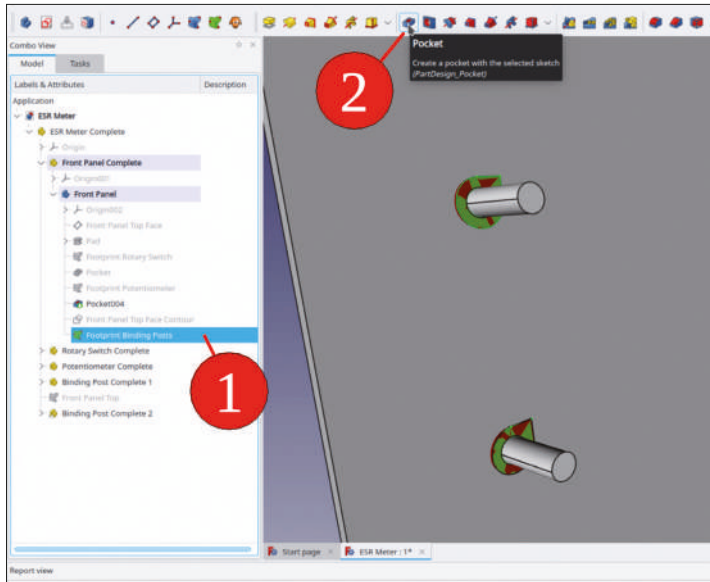
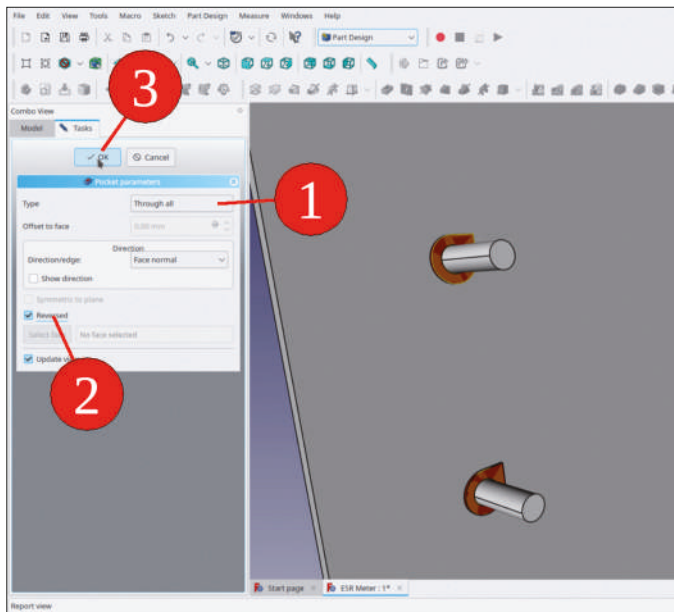

Figure 7-37
Figure 7-38
23. Double-click the body 'Front Panel' to activate it (title shown in bold letters). In the tree view, mark the SubShapeBinder 'Footprint Binding Posts' and click the 'Pocket' tool button (Figure 7-37). In the task window, select the type 'Through all' and check the 'Reversed' checkbox (Figure 7-38). Close the task window with the 'OK' button.